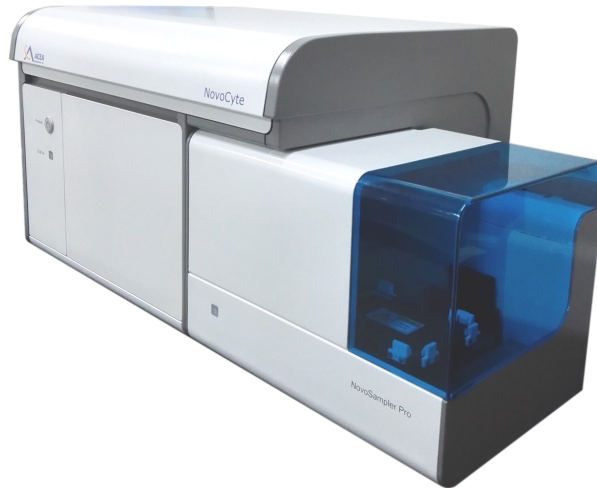

Figure 1-5 Properly Positioning the NovoSampler Pro
- 2 Position the NovoSampler Pro to NovoCyte instrument as shown in Figure 1-5. Align the left and back side of the sampler with the NovoCyte and gently push the sampler against the NovoCyte. Make sure the NovoSampler Pro is closely in contact with the NovoCyte. Make sure there is no gap between the NovoSampler Pro and NovoCyte on both left and back sides.